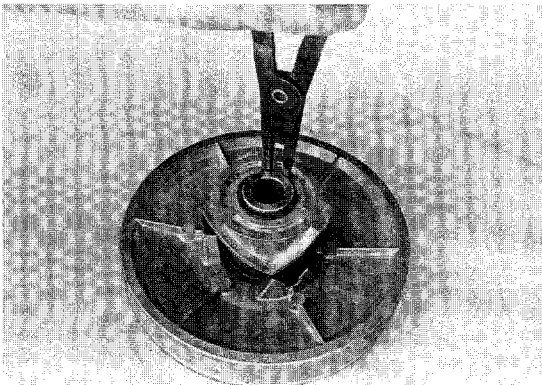

Figure 9-19
1. Using an external snap ring pliers, remove the retaining ring (8) (**Figure 9-19**).